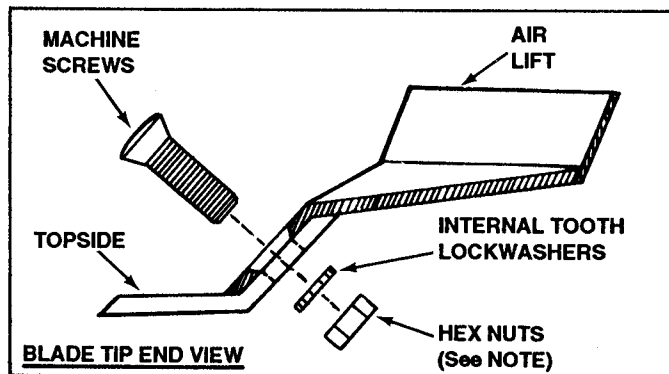

FIGURE 1 - AIR LIFT ASSEMBLY DETAIL
1. AIR LIFT INSTALLATION: If the mower being prepared does not have air lifts on the blade tips, assemble the air lifts to the topside of the blade tips as shown in figure 1. **NOTE:** Tighten the nuts 20-25 foot pounds to draw the heads of the machine screws down firmly into the bevels, then retighten each to this same torque value.